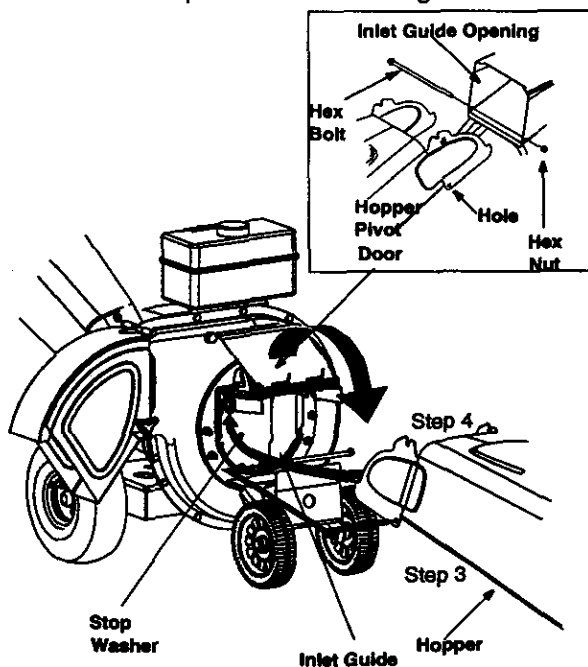

Figure 4
- Remove the 8-3/8" long hex bolt and the hex nut from the bottom of the inlet guide opening. See Figure 4 inset.
- Place the hopper assembly on the ground and hold it in the position shown in Figure 4.
- Holding the hopper, push hopper pivot door down inside the hopper. See Figure 4.
- Slide the hopper assembly towards the chipper-shredder housing so that the upper guide on the hopper assembly slides under the stop washer on each side of the inlet guide. See Figure 4.
- Align the two holes (one on each side) of the lower hopper with the two holes (one on each side) of the inlet guide. See Figure 4 inset.
- Insert the hex bolt (that you earlier removed) from the left through the hole on the hopper and the inlet guide. Insert the hex nut onto the bolt from the other side. See Figure 4 inset.